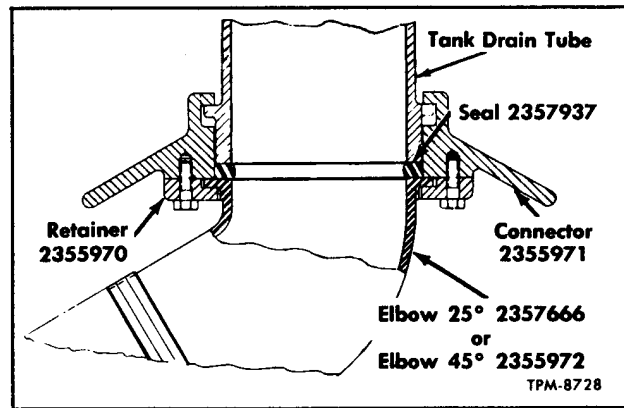

Figure 61—Chemical Tank Outlet and Quick-Lock Connector
For the purpose of draining the chemical tank, special connectors and fittings shown in figures 61 and 62, are available from the Service Department, General Motors Truck and Coach, Pontiac, Michigan.
1. Place coach over sewer opening and attach drain hose special quick-lock connector to tank outlet (figs. 61 and 62). If receptical or sewer facilities are not available, comply with local health regulations.
2. Underneath coach, disconnect tank drain hose (fig. 61) (if used).